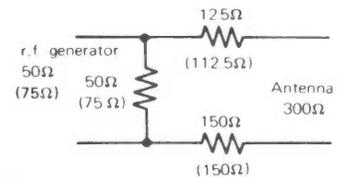

Fig. 2 Dummy Antenna
- \* When connecting the r.f. generator to the antenna terminal use the dummy antenna ..... refer to Fig. 2.